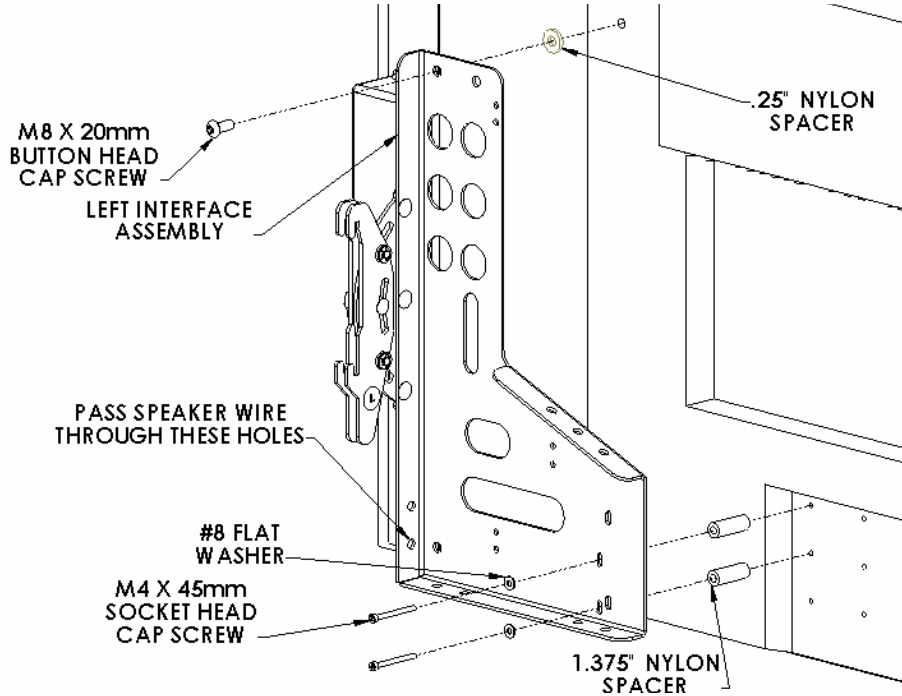
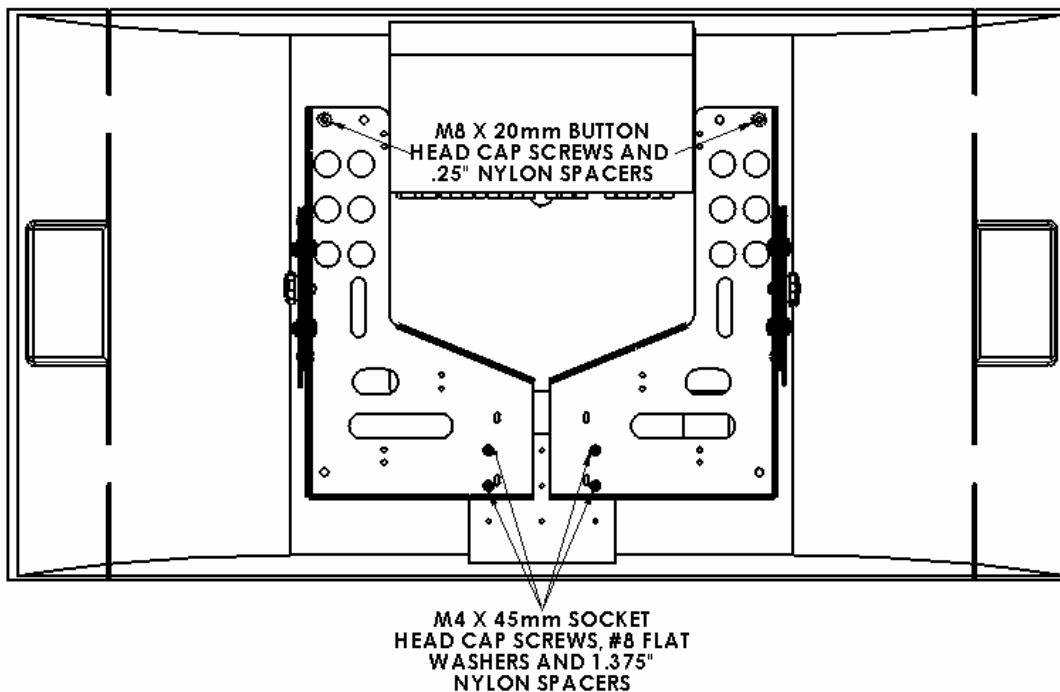

Figure 5. 40" Interface Bracket Attachment
Figure 6. Attach 40" Interface Bracket to Display
- Using two M8 screws (50) with two .25" Nylon spacers (80) on top and four M4 screws (40) with four 1.375" Nylon spacers (90) on the bottom, attach interface brackets to the back of the LCD display (see Figure 5 and Figure 6).